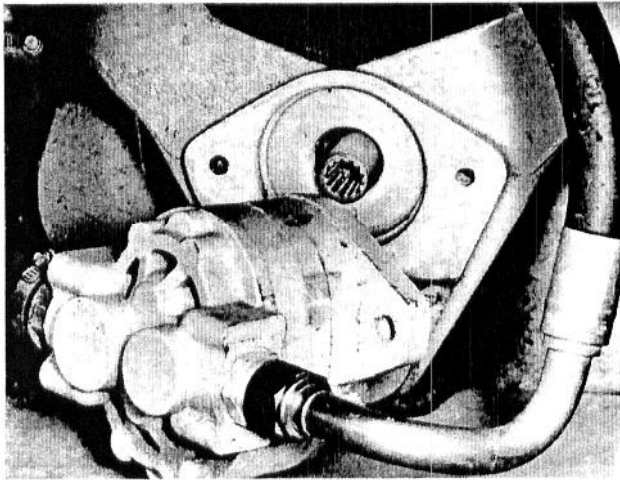

Fig. 4 — LOADER HYDRAULIC PUMP DISCONNECTED FROM THE FRONT AXLE
- a. Remove the loader hydraulic pump mounting bolts (leave the hydraulic lines connected to the pump) and pull the pump forward, away from front axle. See Fig. 4.